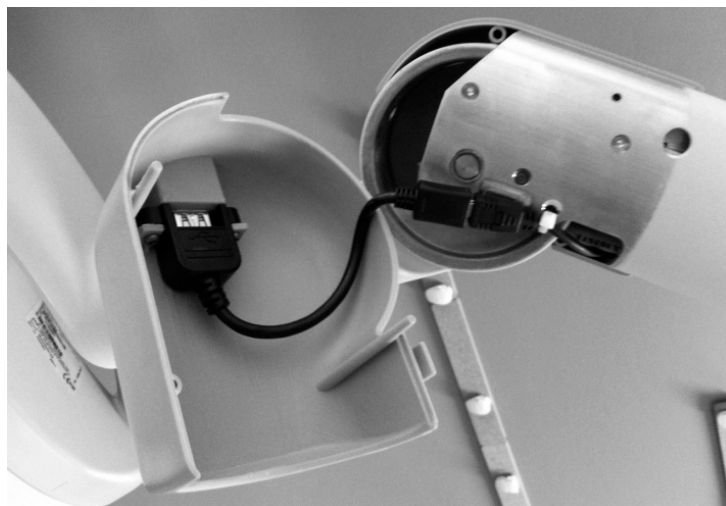

Figure 22: Installing the Sensor Interface Cable
3. Plug the USB cable into the Sensor Interface Cable as shown on Figure 22.